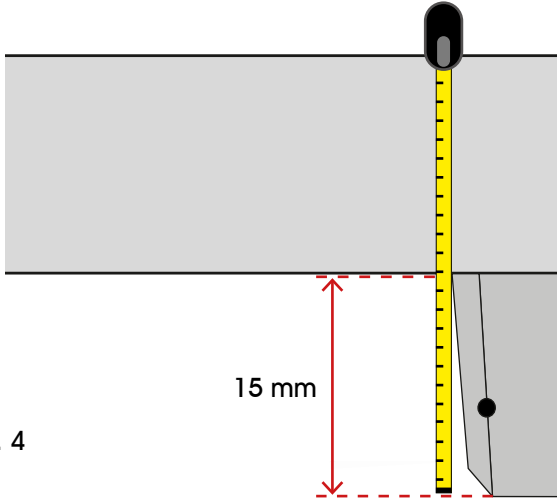

Fig. 4
- Measure the height from the floor to the top edge of the back-cross bar (Fig. 4) and add 15mm.